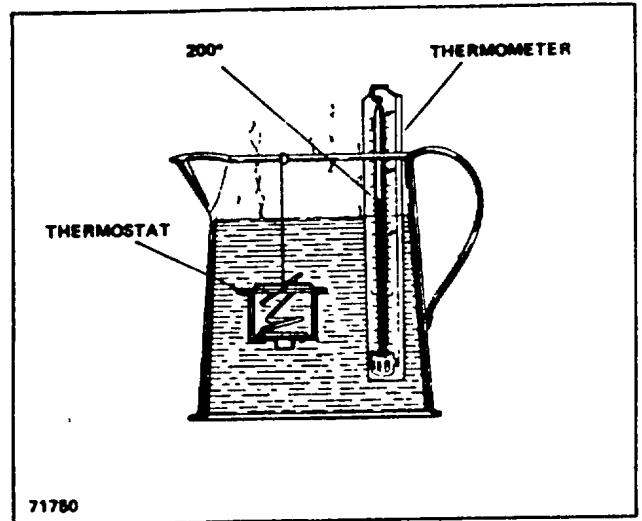

Figure 6. Testing Thermostat
5. Suspend and completely immerse the thermostat in a container of clean water (Figure 6). Heat the water and stir with an accurate thermometer to check the water temperature.